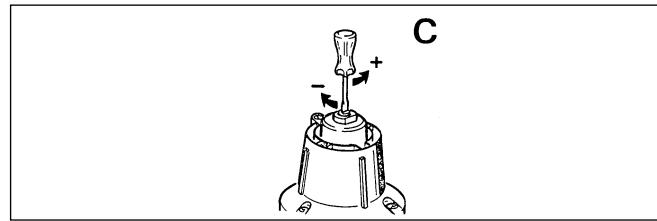

Fig. 2c
**Step pressure adjustment (see fig. 2c)**